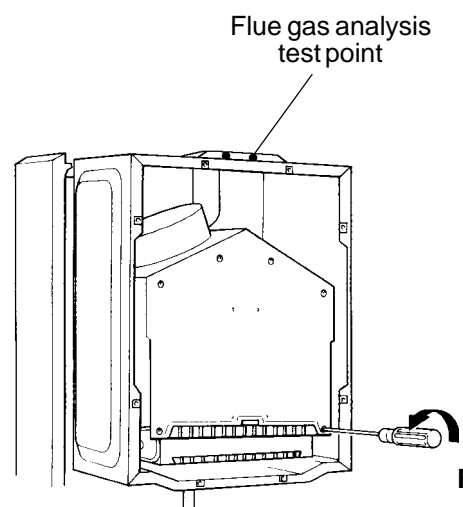

Fig. 26
NOTE: There is a flue gas analysis test point incorporated in the flue outlet. (see fig. 26)
- 8.6.3 Remove front of combustion chamber by releasing six screws fig. 26